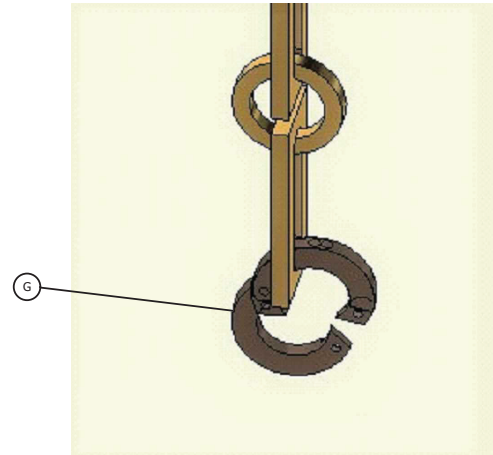

Fig.4
4. Unscrew the end loop (G) of each set of chains.(Fig.4)
5. Screw each canopy (A) and set of chains to the ceiling plates.